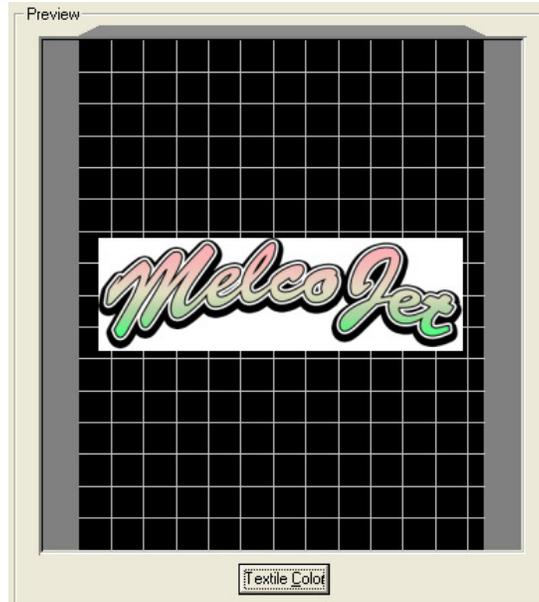

Figure 5.1 - no transparent background
- Figure 5.1 is an example of an image that has been “opened” in EK Print Studio without a “transparent” background – THIS IS INCORRECT